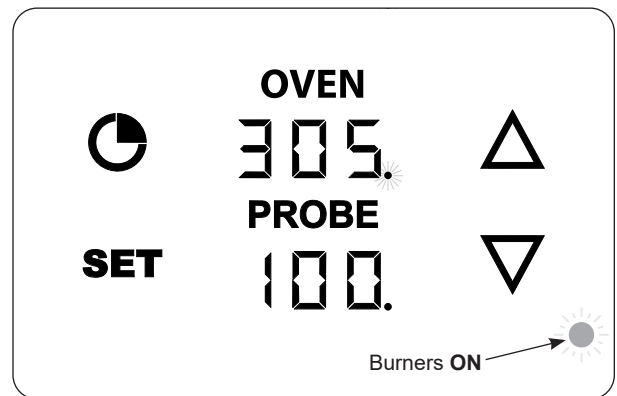

Fig. 37-2 Red LED status light
- The **red LED light** indicates that the heating burners are **on**. The **light** turns on and off intermittently as the burners maintain the set temp. See Fig. 37-2.